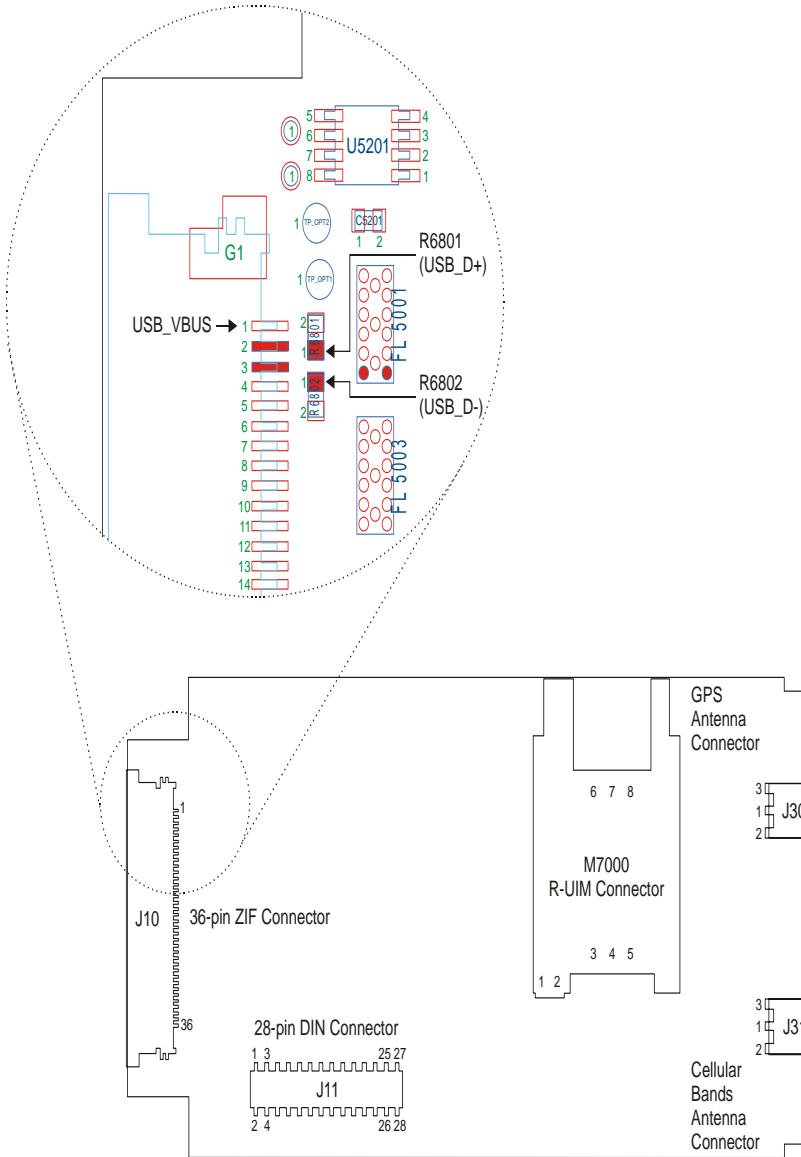

Figure 38. Solder Location for Chip Resistors
- Solder two 0402 size 0Ω chip resistors (R6801 and R6802) on the c18, at the places shown in Figure 38 below.